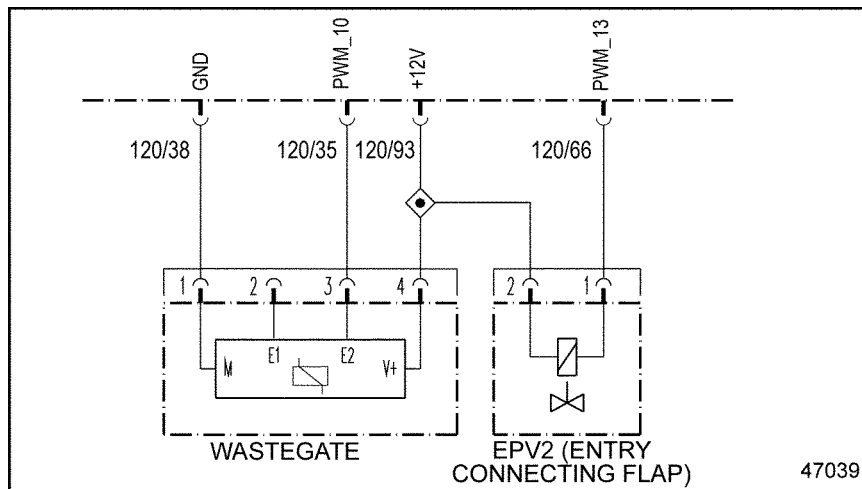

Figure 31-3 Wastegate
- [a] If 706/5 is active with 704/5, repair the open circuit between pin 93 of the MCM 120-pin connector and pin 4 of the wastegate valve and pin 2 of the EPV2 solenoid. See Figure 31-3. Refer to section 31.3.1.1.